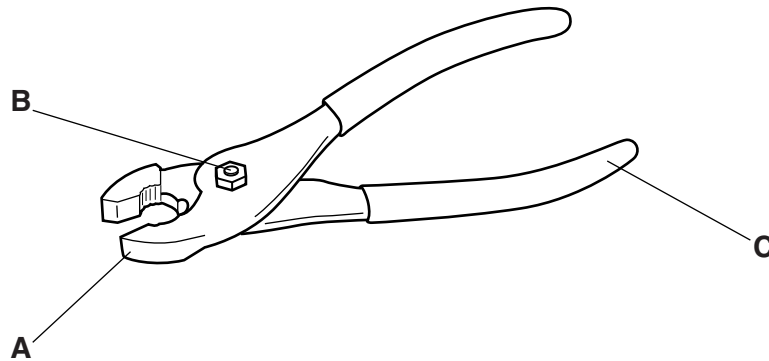

Fig. 1
- 1 (a) Fig. 1 shows a workshop tool that uses a lever to operate.
- (i) Match the terms below to the parts identified in Fig. 1.
- (ii) State the class of lever shown in Fig. 1.